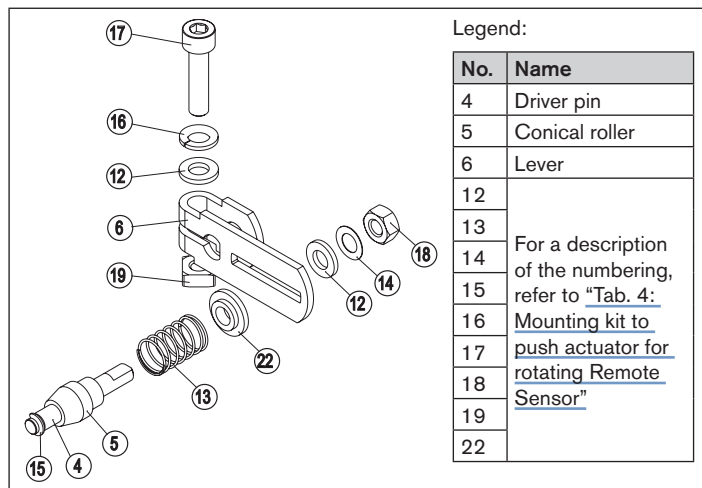

Fig. 26: Assembling the lever
- Assemble lever (if not pre-assembled) (see “Fig. 26”).